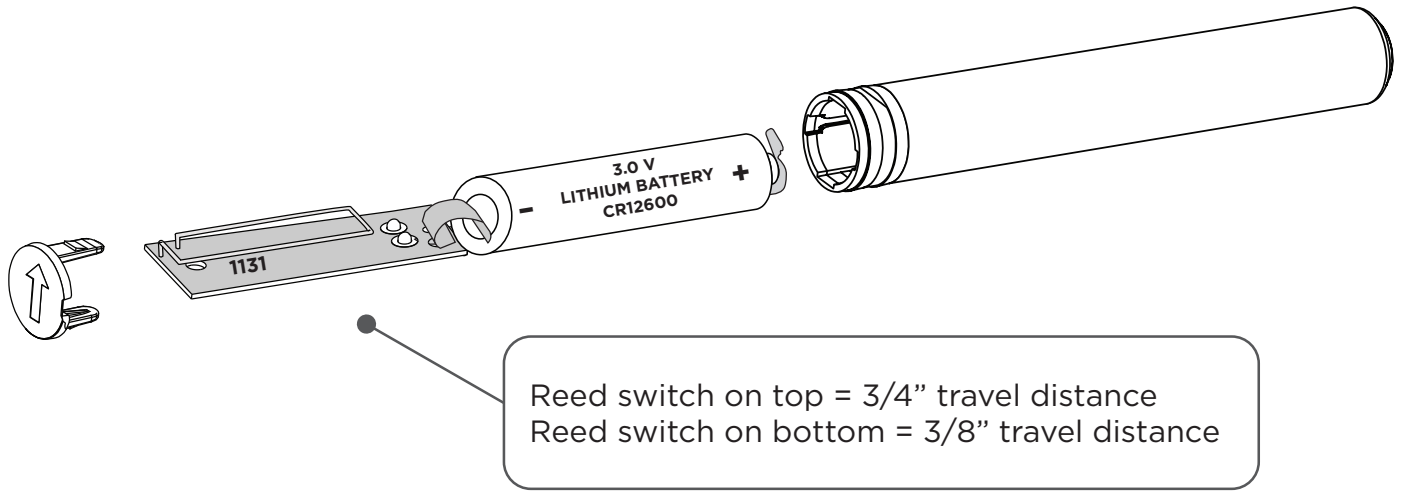

Figure 2: Assembling the Housing
3. Slide the battery tray and PCB into the housing tube as required for desired travel distance. Refer to Figure 2.
4. Place the 3.0 V lithium battery in the holder as shown in Figure 2.